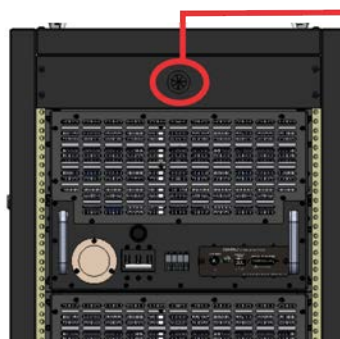

Figure 2.5 – Grommet for routing input and output wiring into the system case
1. Route your output cables through the grommet in the panel located at the top of the cabinet back. See **Figure 2.5**. Make sure the cable is long enough to reach the back panel of the the lowest amplifier module in the cabinet.